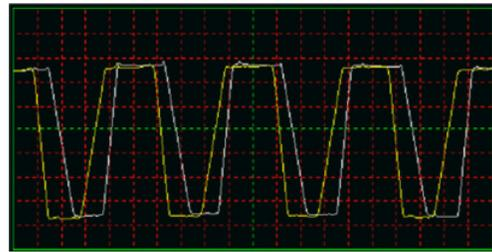

Figure 14: Integral gain is too low
8.2.2. If the profile appears edgeless where edges are expected (see Figure 14), the integral gain is too low.